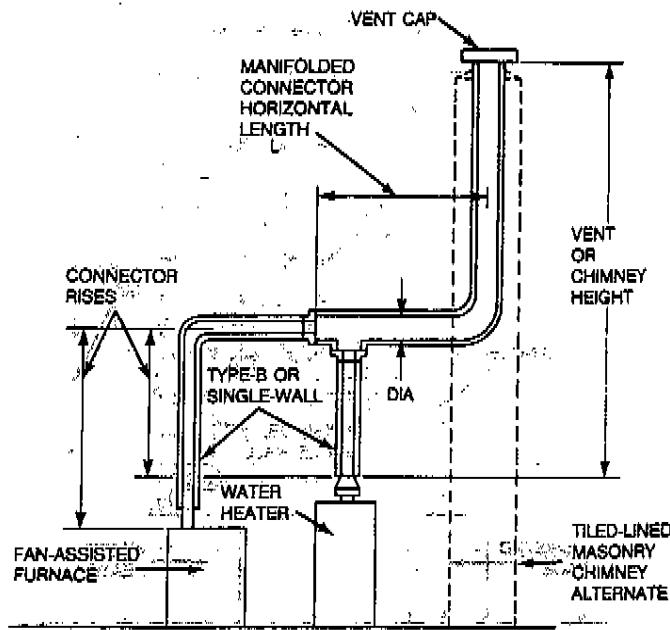

Fig. 5—Manifolded Vent Connectors for Use With Tables 1 through 8
- d. Vent connectors may be manifolded (common-vented below the vent) as noted in the table below and as shown in Fig. 5. A manifolded connector shall be sized as a common vent (not a connector) with the same table used to size the connectors and common vent. If the vent or furnace connector is Type-B, the manifolded connector shall also be Type-B. For a chimney sized with Table 7 or 8, single-wall pipe may be used for a manifolded connector, but Type-B is recommended.